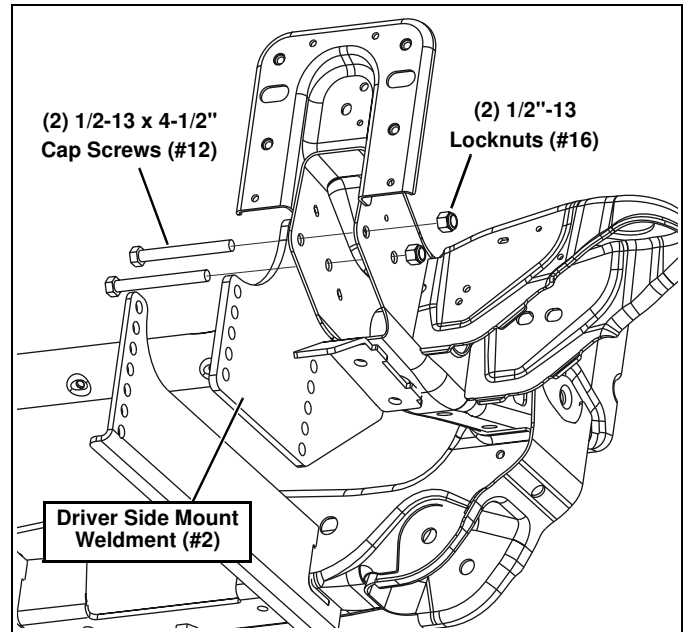

Figure 4
- Remove the driver side tow hook hardware. Align the Driver Side Mount Weldment (#2) to the frame. Run (2) 1/2"-13 x 4-1/2" Cap Screws (#12) through the item 2, the vehicle frame, and tow hooks. Fasten the hardware with (2) 1/2"-13 Locknuts (#16). (See Figure 4.)